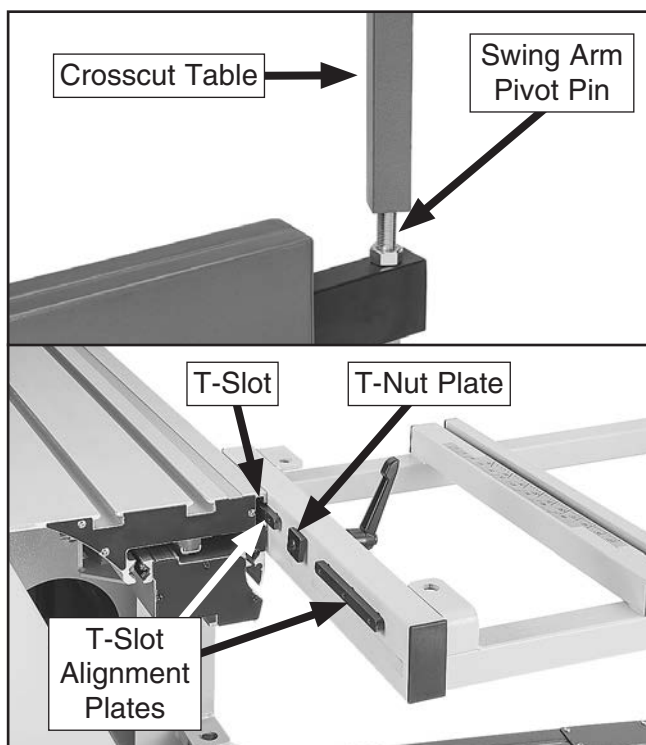

Figure 42. Attaching crosscut table to machine frame.
37. With assistance from other people, place crosscut table on swing arm pivot pin and slide T-slot alignment plates and T-nut plate into sliding table T-slot, as shown in **Figure 42**.